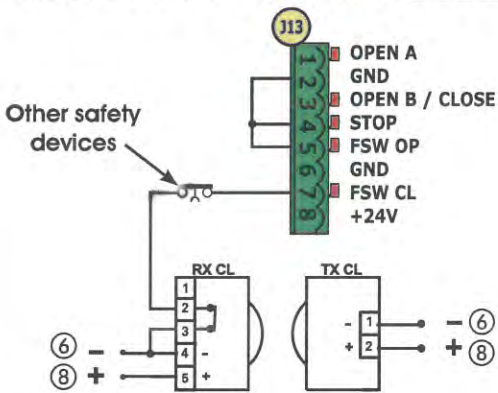

Fig. 6
**⚠** If the FAIL-SAFE safety device is used, connect the power supply of the transmitters to OUT after setting it as appropriate (see 2nd level programming and Fig. 6).
**⚠** If the FAIL-SAFE safety device is used, even the unused safety inputs must be connected via a shunt lead to the negative of OUT (see Fig. 6).